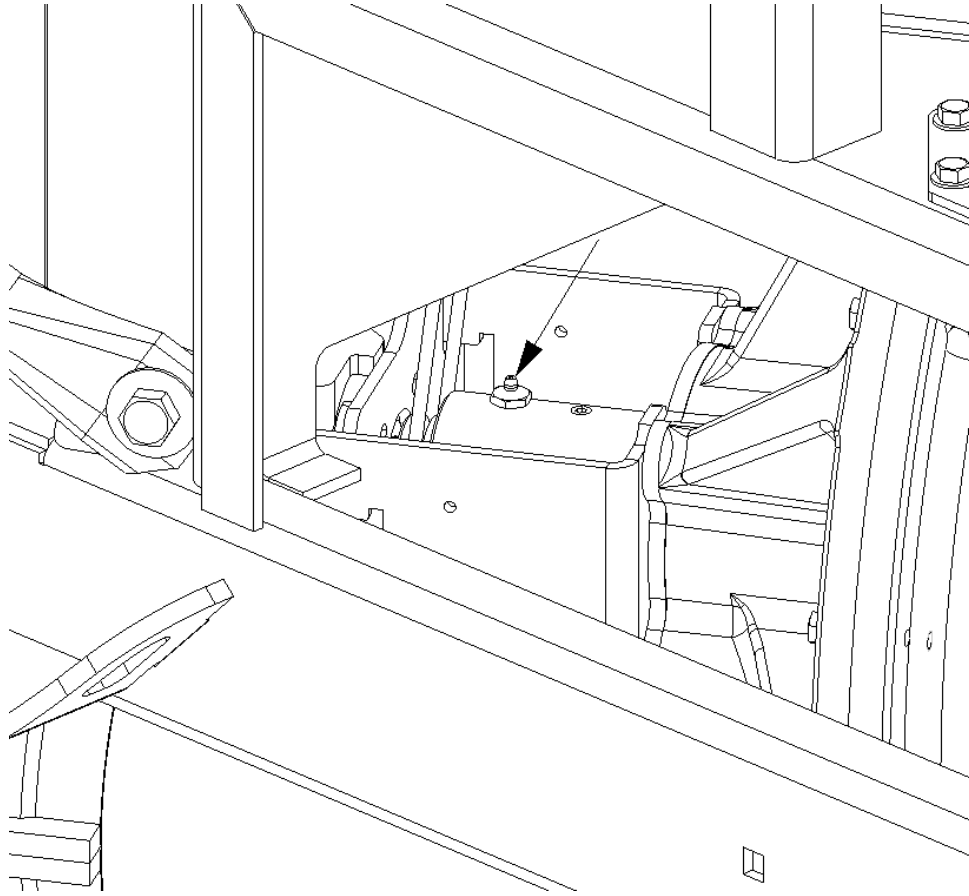

Figure 7-22: Airlock motor coupling lubrication location
6. Lubricate the airlock motor coupling in the location shown in **Figure 7-22**.